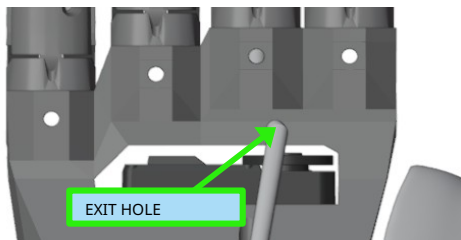
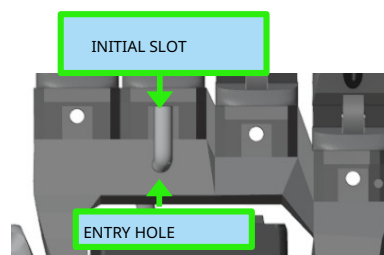

Figure 5.26: Inserting tube into the tendon exit hole (rear view)
Figure 5.27: Inserting into the circular slot (front view)
1. Insert the PTFE tube into the exit hole (on the back of the skeleton) of the flexion tendon (figure 5.26), let it come out from the entry hole on the front of the skeleton and insert it into the initial slot figure 5.27)